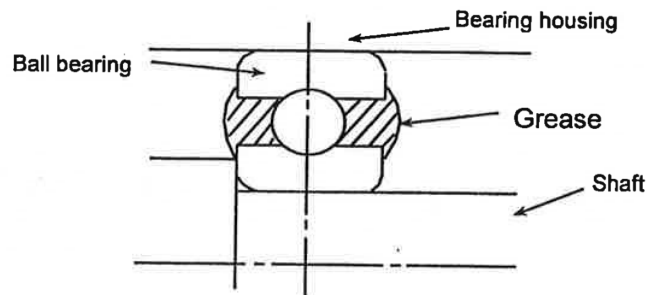

Fig. 5.2
- (3) Overhaul the bearing every two years, and replace the old grease. In this case, charge each ball of bearings (as shown in Fig.5.2) with grease charging amount shown in Table 5.2.